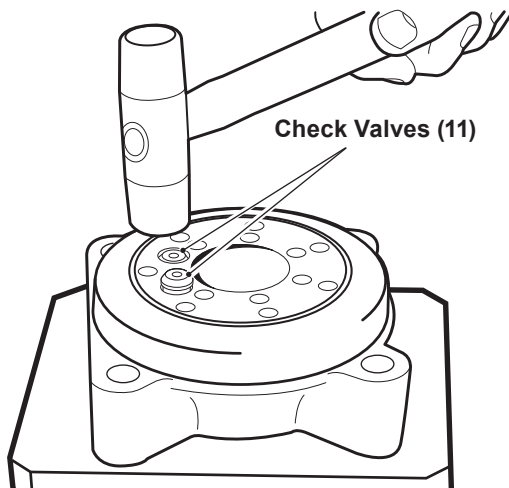

Figure 5, Check Valve
3. Install the two check valves (11) into their bores. See figure 5.
4. Seat the check valves (11) by lightly tapping with a rubber hammer. See figure 5.